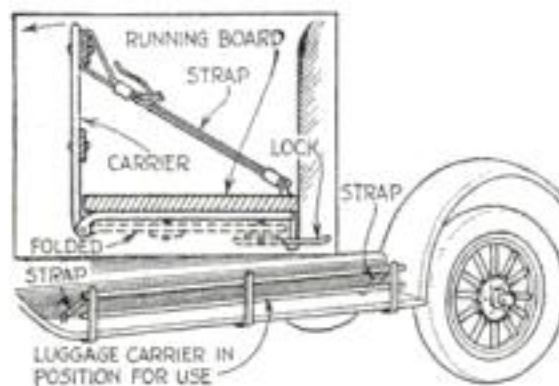

Fig. 5. A folding running-board luggage carrier like this is always handy when you need it, and yet it is out of the way when not in use
**G**EORGE D. HUGO, of Seattle, Wash., wins the \$10 prize this month for his suggestion of the disappearing luggage carrier (Fig. 5). Each month POPULAR SCIENCE MONTHLY awards \$10 in addition to regular space rates to the reader sending in the best idea for motorists. Other published contributions will be paid for at usual rates.
**T**HIS novel homemade luggage carrier (Fig. 5) is made so that it folds underneath the running board when not in use. Three large sized strap hinges are bent as shown, and screwed to the under side of the running board. Wooden or light metal strips are fastened to the movable member of the hinges with short bolts. A leather strap at each end will serve to hold the carrier in the proper position when in use, and a special catch will hold it flat against the bottom of the running board when not wanted.